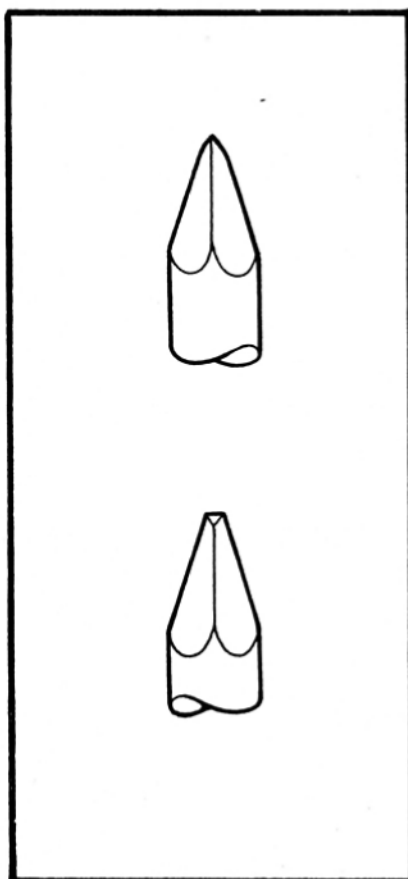

FIG. 28
1. Lightly stone across the two edges to form a small chisel point (Fig. 28).